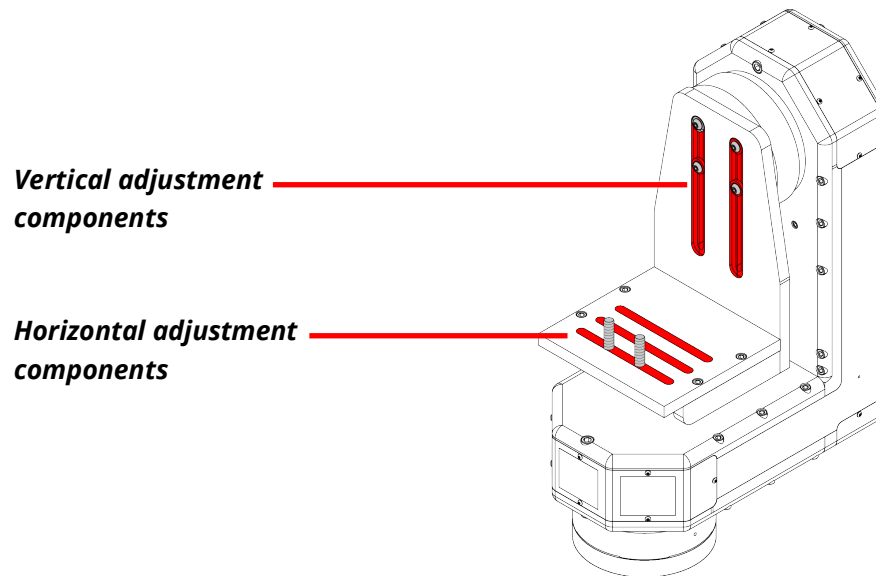

Figure 3 Payload Balancing Adjustment Components
The head and camera cradle are designed to make balancing easy. **Figure 3** and the following lists identify the payload balancing adjustment features:
4. Use the horizontal adjustment components (**Figure 3**) to move the payload away from the direction it tilted, and then test again.
4. Use the vertical adjustment components (**Figure 3**) to raise or lower the payload as required, and then test again.